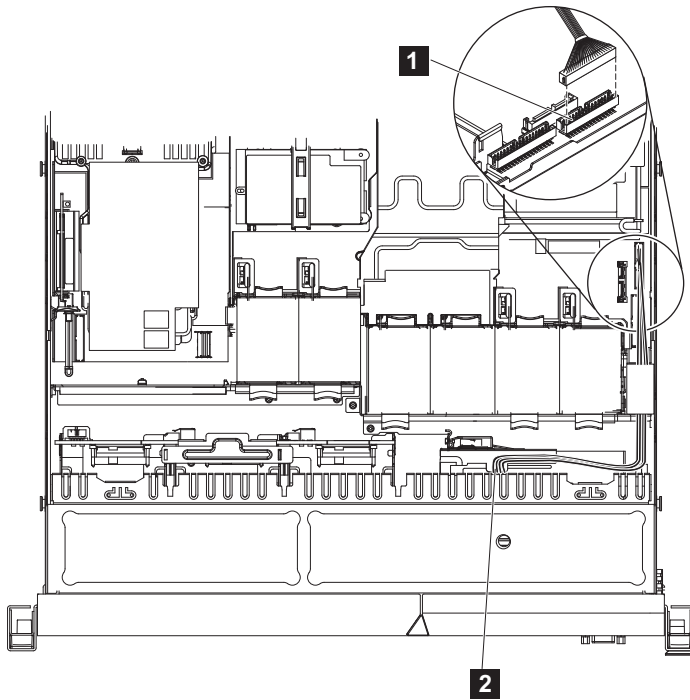

Figure 266. Disconnecting the SAN Volume Controller 2145-CG8 or 2145-CF8 operator-information panel cable
3. Disconnect the cable from the connector above the Video/USB cable connector on the right side of the node, as shown in Figure 266 on page 320.